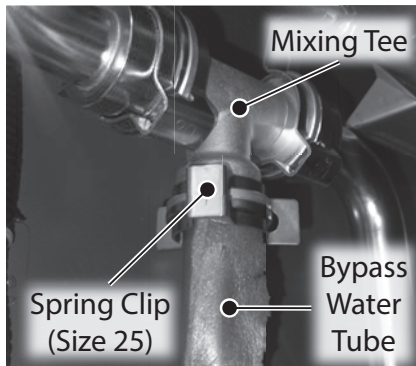

Figure 199 - Remove spring clip from bypass water tube
15 Locate the mixing tee and bypass water tube as shown in Figure 199. Remove the spring clip (size 25) securing bypass water tube to bypass valve and mixing tee. Place spring clip aside in a safe place for reinstallation.
- Locate the new mixing tee and three (3) O-rings provided in the kit. Install the two (2) large O-rings (21.8 x 2.4) to mixing tee. Remove and replace the one (1) small O-ring (15.5 x 2.5) on the bypass water tube (mixing tee side). See Figure 199 for location of bypass water tube.